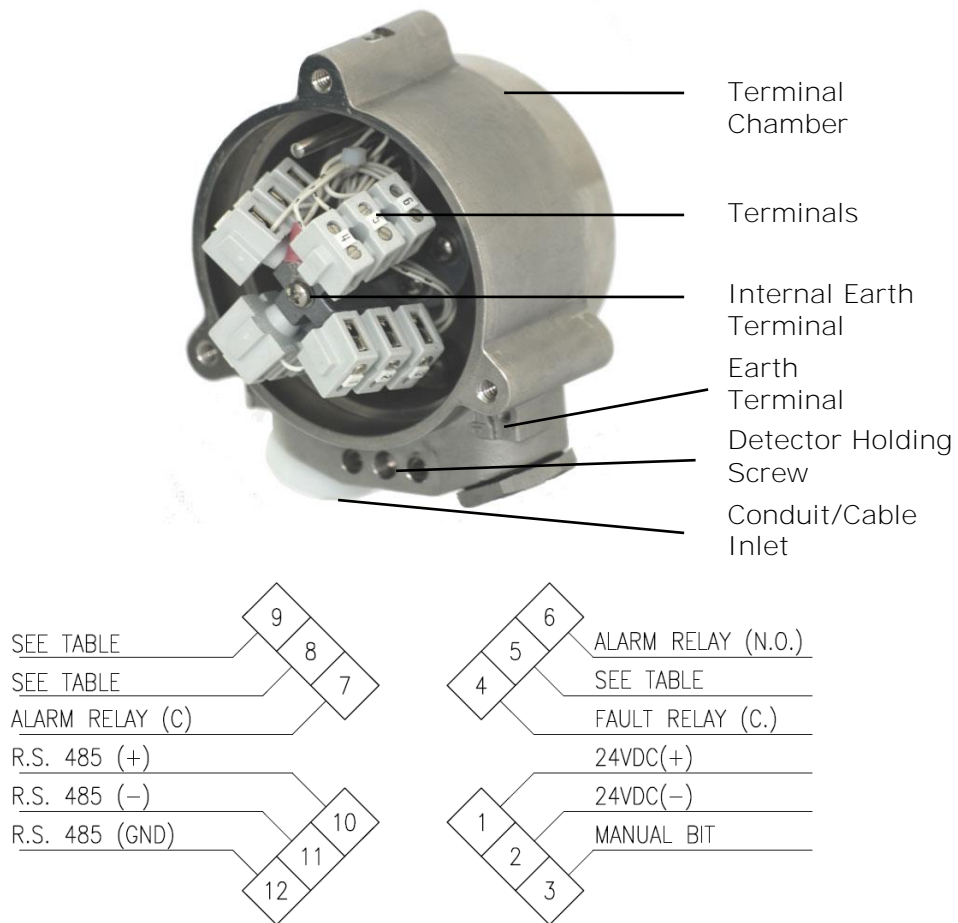

Figure 7: Detector with Cover Removed
This section describes how to connect the electric cabling to the detector (Figure 7).
- 5** Connect the wires to the required terminals on the Terminal Board according to the wiring diagram (Figure 7) and Table 15.
- 8** Check the wires for secure mechanical connection and press them neatly against the terminal to prevent them from interfering while closing the back cover (Figure 7).